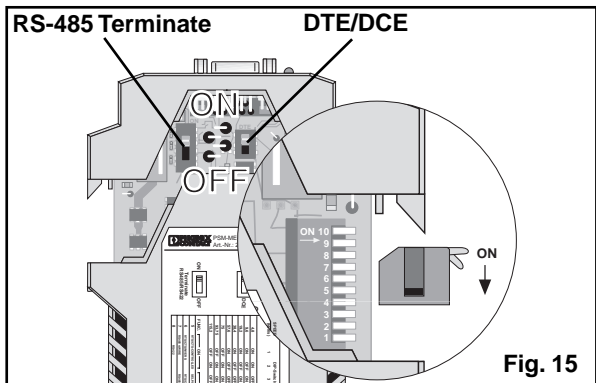

Fig. 15
- If the automatic operating mode was selected, set the transmission rate with the aid of DIP-switches S1-S4 (fig. 15) and the table below.
- If necessary, activate the terminating resistors fig. 15 (Please observe the section 8 on "Terminating resistor for the RS-485/RS-422 interface", page 12).